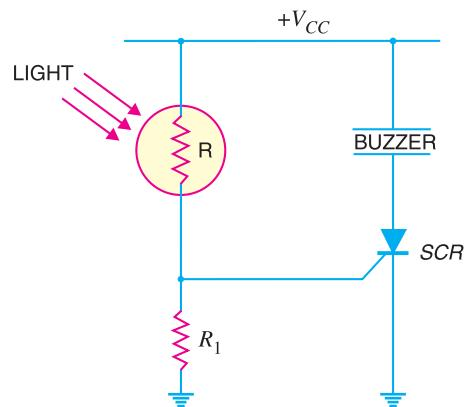

Fig. 20.22
**(iv) Overlight detector.** Fig. 20.22 shows the use of  $SCR$  for overlight detection. The resistor  $R$  is a photo-resistor, a device whose resistance decreases with the increase in light intensity. When the light falling on  $R$  has normal intensity, the value of  $R$  is high enough and the voltage across  $R_1$  is insufficient to trigger the  $SCR$ . However, when  $R$  is in strong light, its resistance decreases and the voltage drop across  $R_1$  becomes high enough to trigger the  $SCR$ . Consequently, the buzzer sounds the alarm. It may be noted that even if the strong light disappears, the buzzer continues to sound the alarm. It is because once the  $SCR$  is fired, the gate loses all control.